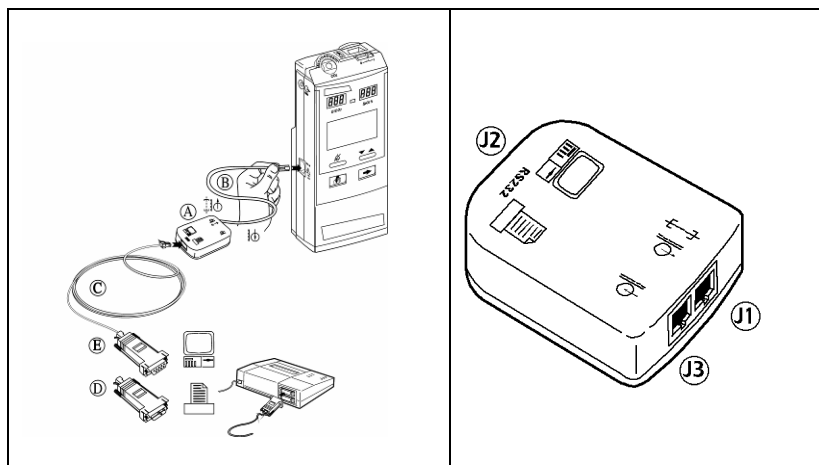

Figure 4. Communication Adapter to Output Device Connection
1. Insert the smaller end-connector of the interface cable (C) into the Communication Adapter output port (J2), as seen in Figure 4. Communication Adapter to Output Device Connection, below.
2. Insert the wider end-connector of the interface cable (C) into either the Printer connector (D) or PC connector (E), as seen in Figure 4. Communication Adapter to Output Device Connection, below.